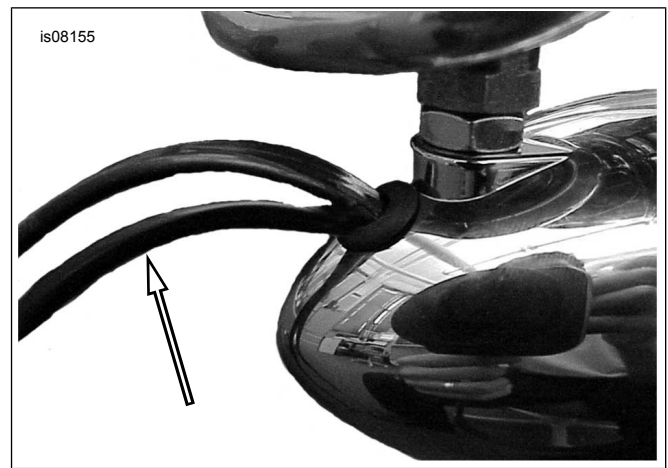

Figure 11. Route Passing Lamp Lead Wire
11. See Figure 11. Route passing lamp lead wire through directional housing grommet.